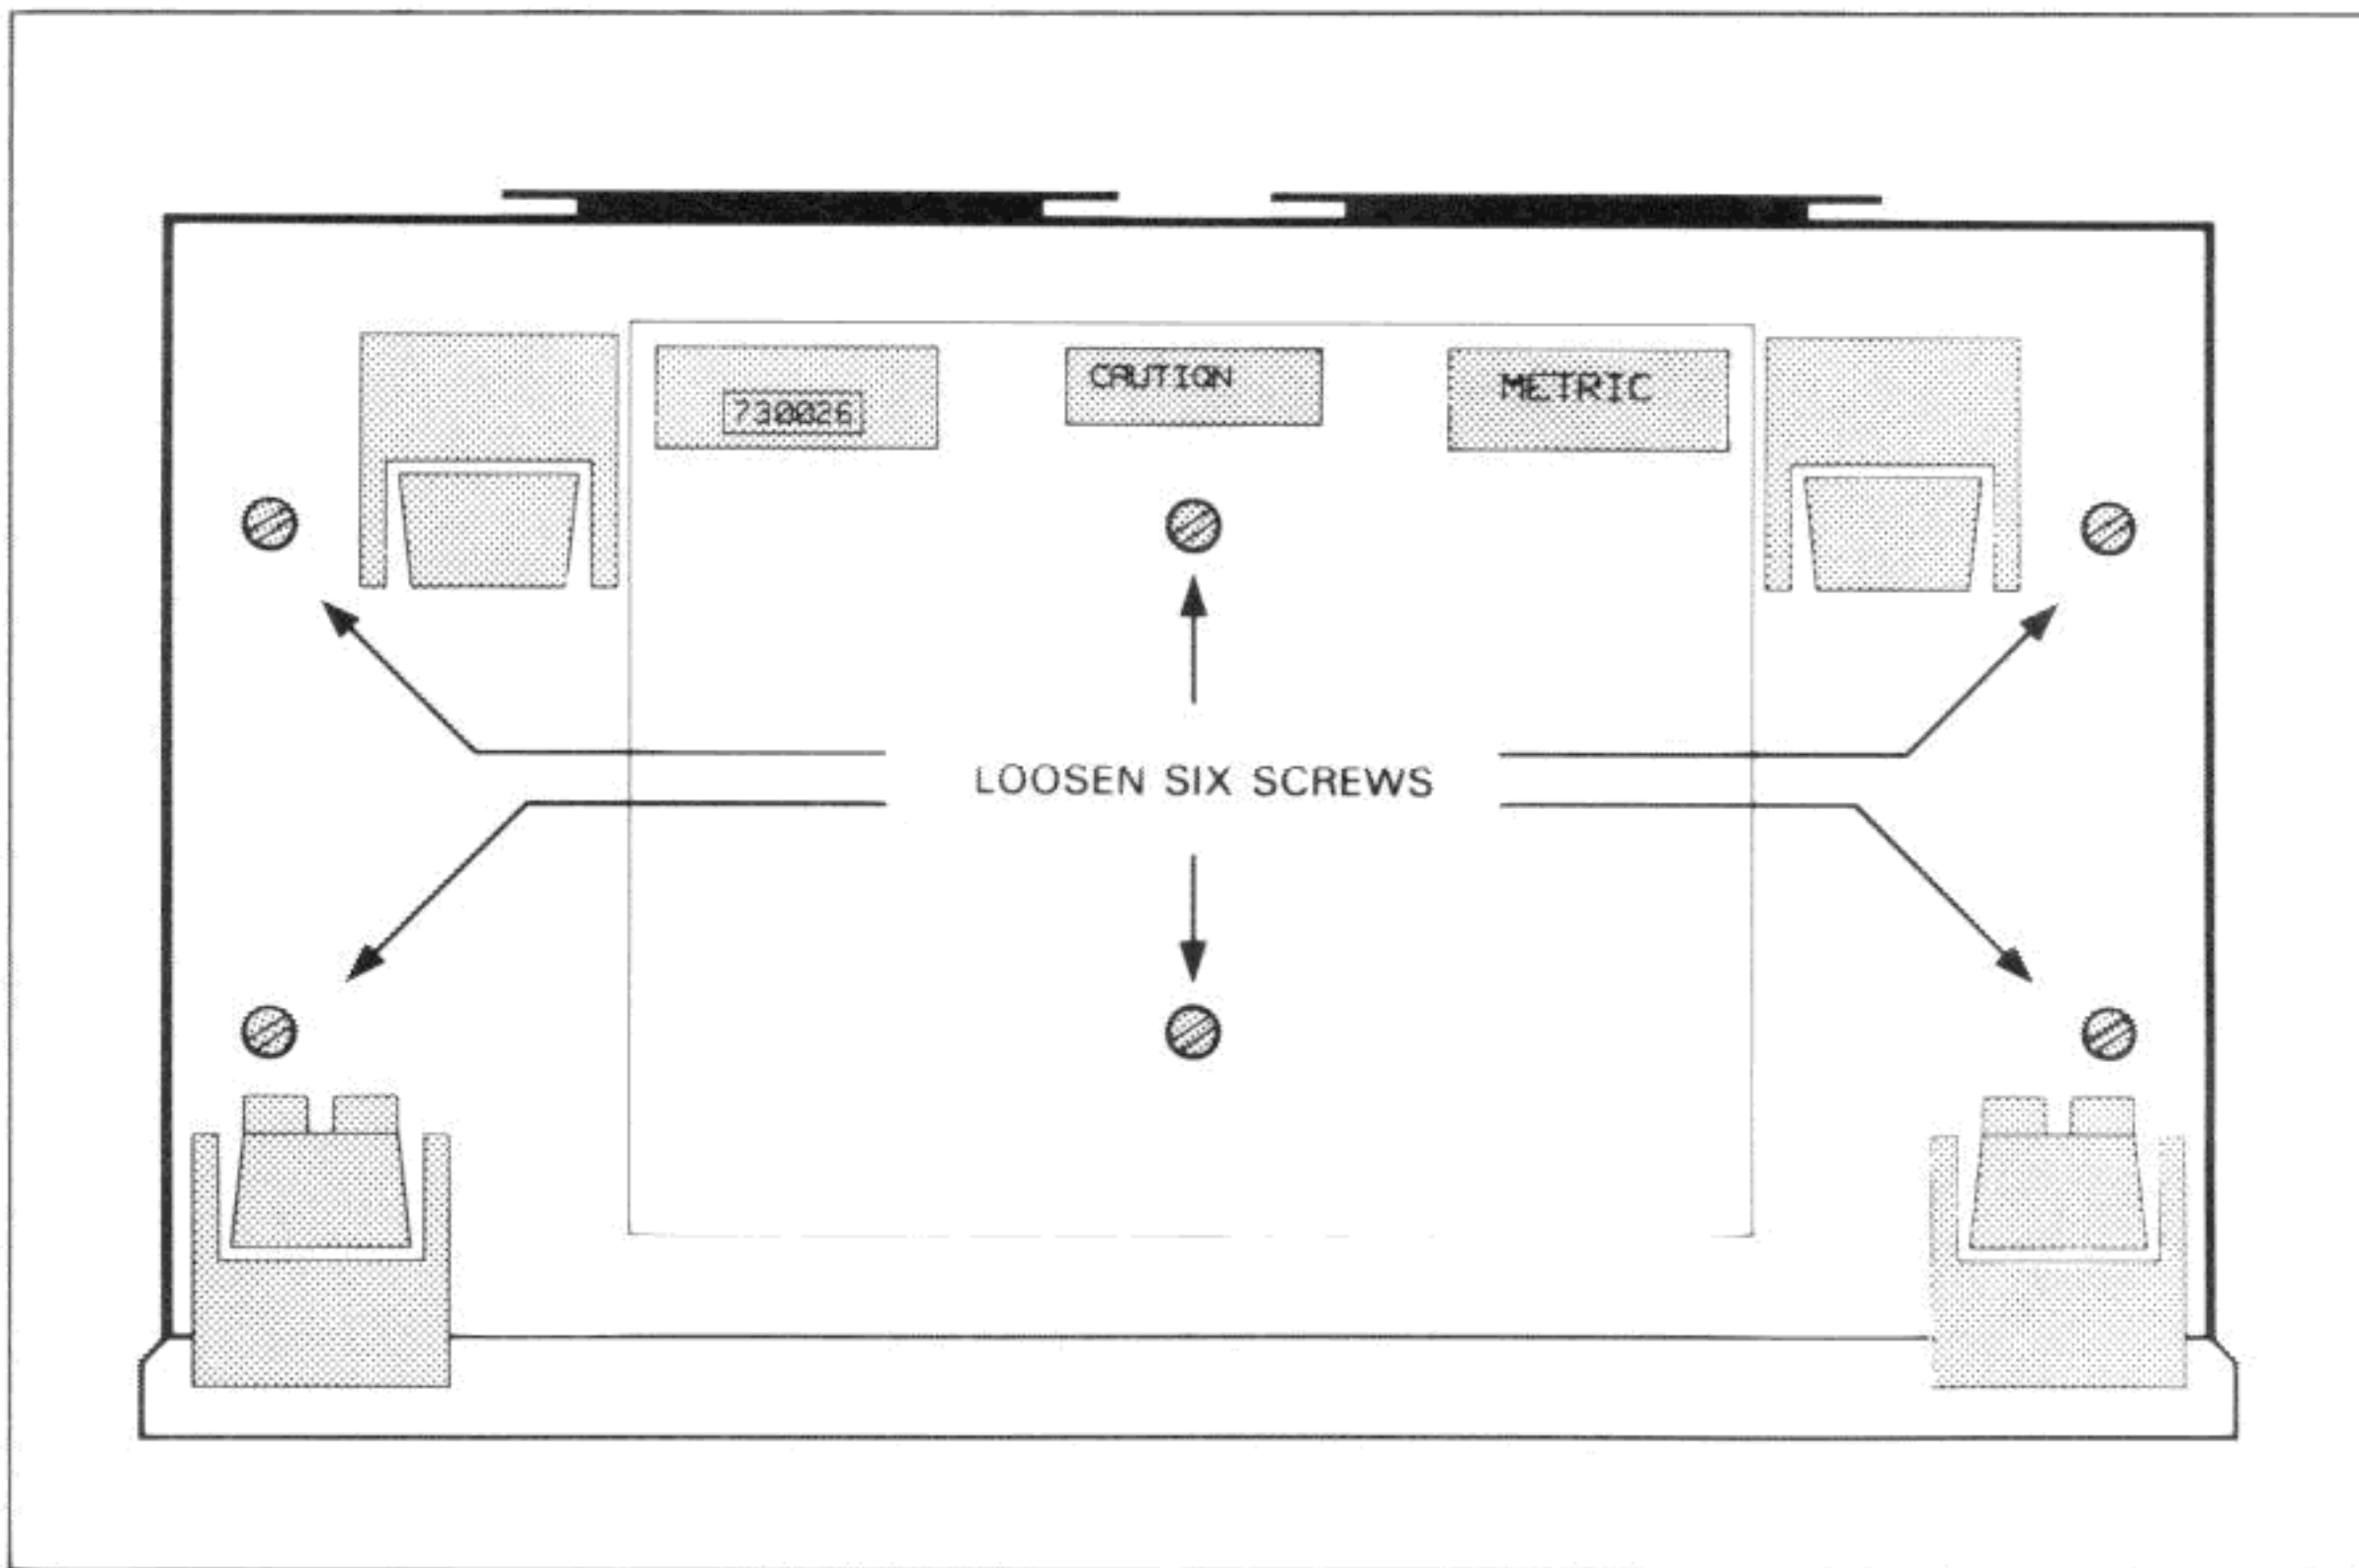

Figure 5-4-1. Loosen Bottom Screws
b. Turn the instrument upside down. This is preferably done on top of a protective mat to reduce the possibility of scratching or marring the instrument case. Use a static safe mat to prevent any buildup of static electricity. Refer to Figure 5-4-1 and loosen the six screws on the instrument bottom.